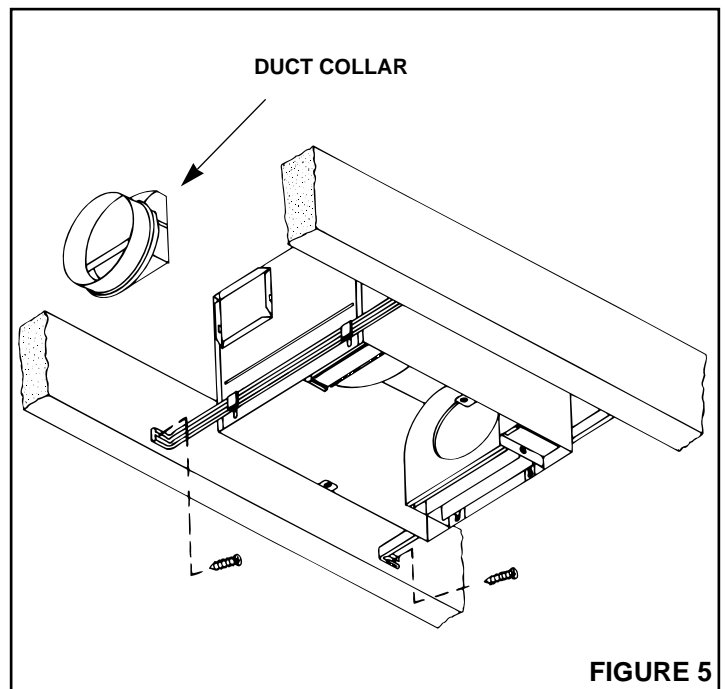

FIGURE 5
2. Refer to Figure 5. Using nails, secure hanger bars to joists.
1. Refer to Figure 5. Install duct collar.